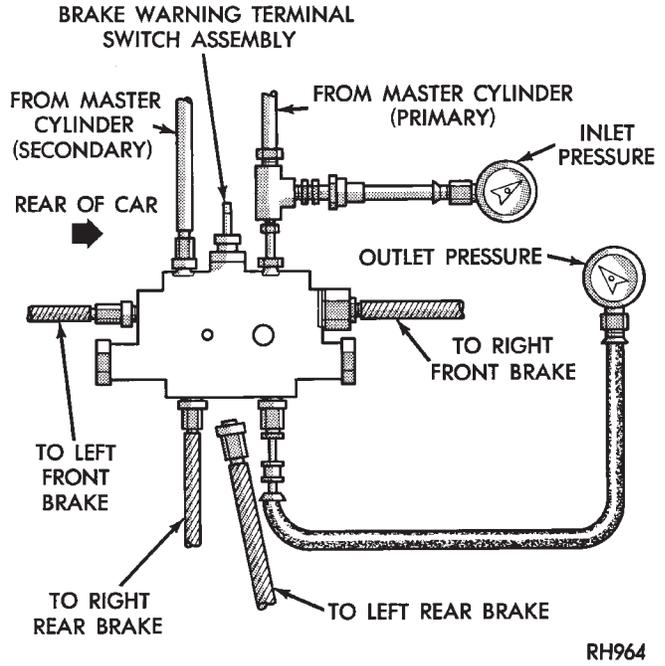

Fig. 5 Tube Connection for Left Rear Skidding
(1) Install one gauge and (TEE) of set C-4007-A between brake line from the master cylinder primary port and the brake valve assembly.
(2) Install the second gauge of set C-4007-A to the left rear brake outlet port (Fig. 5). An adapter tube, made up from a 7/16 x 24 tube nut, a short piece of brake tube and 3/8 x 24 tube nut. Will be required to connect the hose to the valve. Bleed the gauge and hose.
(3) Have a helper exert pressure on the brake pedal. Hold pressure steady to get a reading on the valve inlet gauge and check the reading on the outlet gauge. If the inlet and outlet pressures do not agree with the values on the following chart, replace the valve.